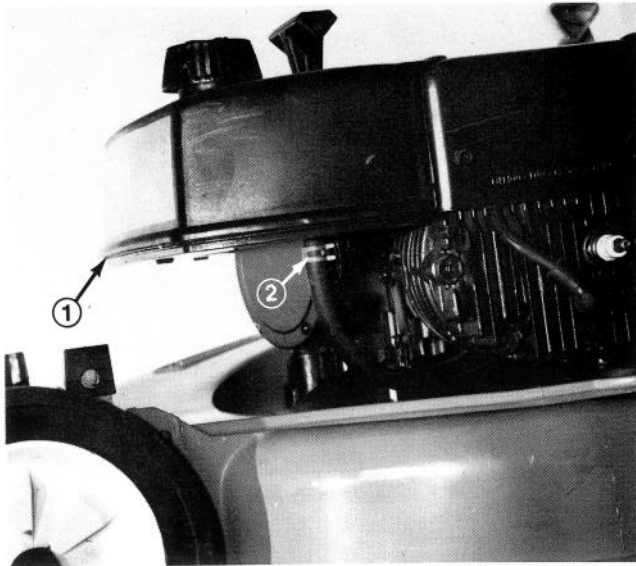

Figure 32
2. Place a clean, shallow drain pan below the fuel tank (Fig. 32).
3. Squeeze ends of clip holding fuel line on fuel tank fitting (Fig. 32). Slide clip down fuel line.